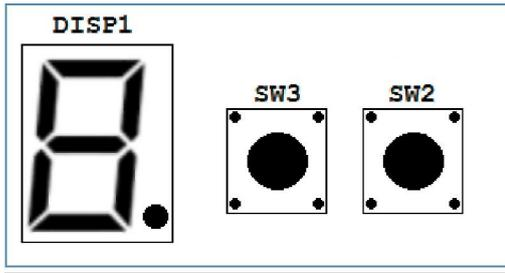

Fig 42: 7-segment display and push buttons IC 4000/1
4. Select the **parameter level**. Press SW2 and SW3 buttons together for 3 seconds [Fig. 42] until PP01 is shown on the 7-segment display.